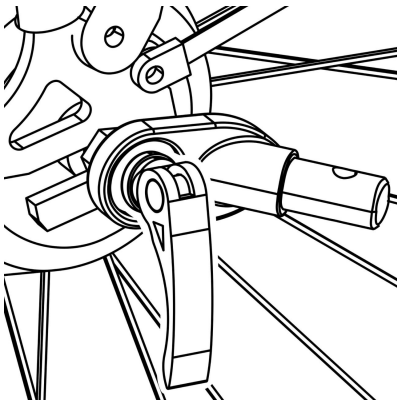

Figure 12
1. Quick-release Axle: Remove the quick-release from the left side of bike's rear axle. Install the hitch between the quick-release and frame. Tighten the quick-release following the bike manufacturer's manual. Hitch can remain on the bike when the trailer is removed (Figure 12).